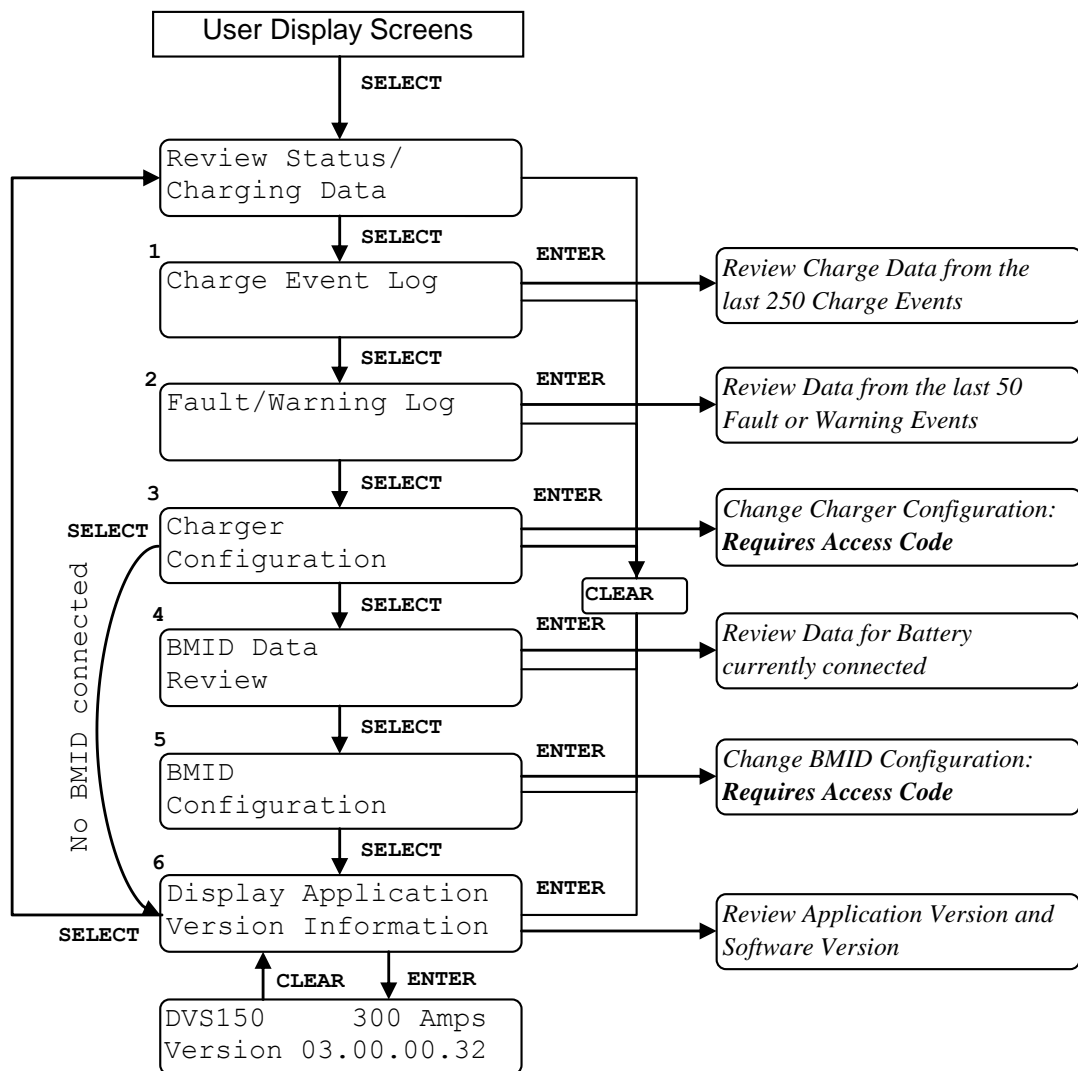

Figure 5- 10 Top Menu Items for the Advanced Features
1. Charge Event Log - Allows the user to scroll through the data from the last 250 charge events (Figure 5- 9).
2. Fault/Warning Log - Allows the user to scroll through the last 50 fault or warning events (Figure 5- 8).